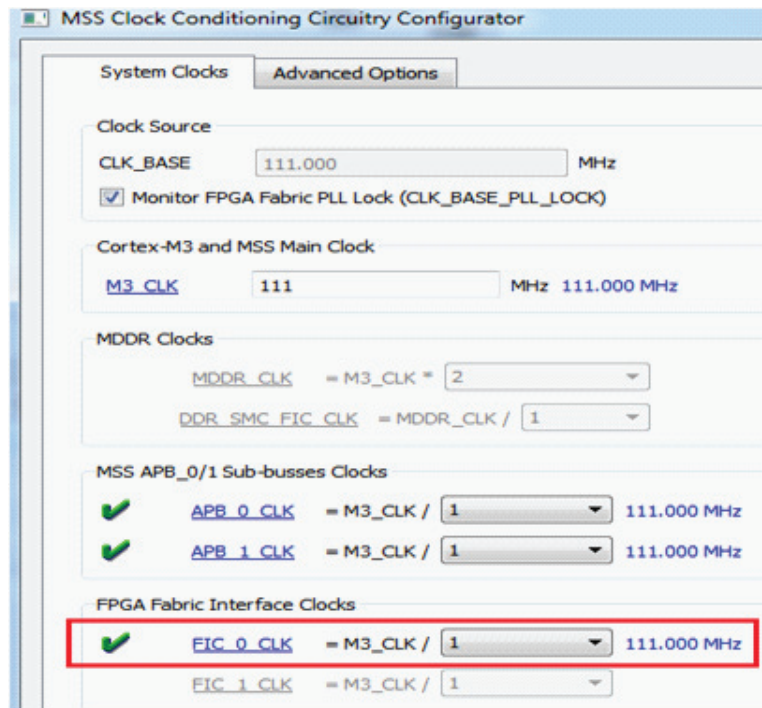

Figure 2-19 • MSS CCC Configuration
4. Configure MSSCCC for the FIC_0 clock, as shown in Figure 2-19. The FIC_0 clock is configured to 111 MHz.